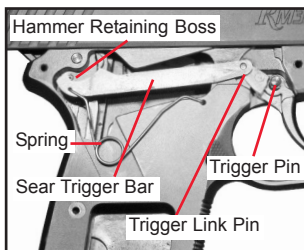

Figure 44
14. If the linkage is disturbed and it is required to reassemble, place the Trigger and the Trigger Pin as shown in Figure 44.
16. Lay the left end of the Sear Trigger Bar under the Hammer Retaining Boss. See Figure 44.
17. Insert the Sear Trigger Bar Spring to the Sear Trigger Bar then to the frame. See Figure 44.